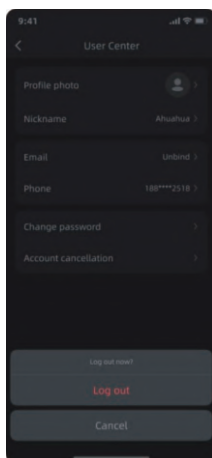

Figure 12
12) Figure 12: Click "**Log out**" to return to the login page; Click "**Cancel**" to keep the current login status.